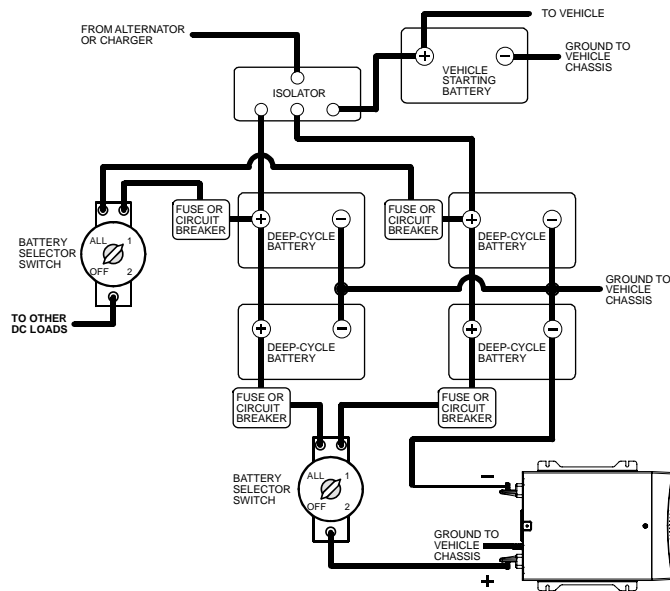

Figure 5 Configuration for Heavy Loads
4. When configuring for heavy loads (see Figure 5), install a battery selector switch and connect it to the DC-rated fuse (or circuit breaker).
When configuring for heavy loads (see Figure 5), attach the connector on the positive cable to the battery selector switch that is already connected to the DC-rated fuse (or circuit breaker).